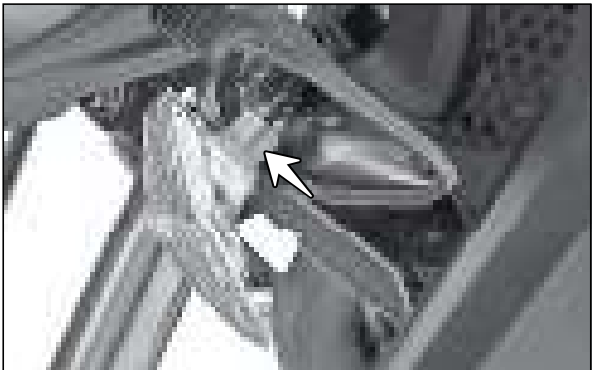

Fig. 5.71
- Rotate and pullout the bulb holder from the housing and replace the bulb with a new one. (Fig. 5.71)